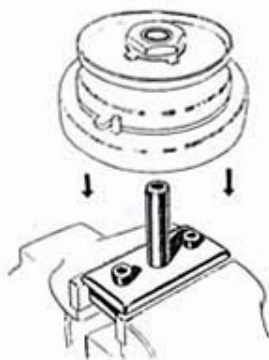

Fig. 1
- Install the variator hub on the dismantling tool, No. 100026 (fig. 1).